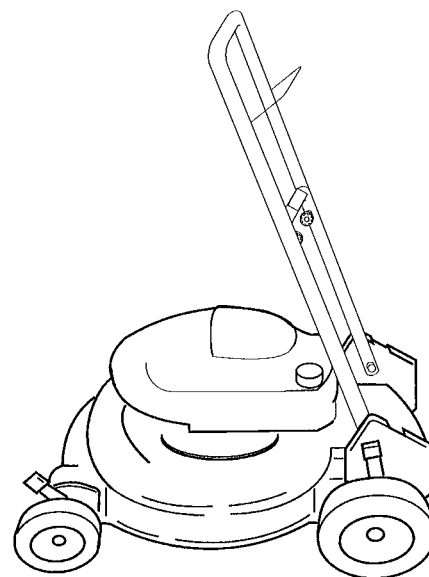

Figure 34
3. For short term storage, place handle in position shown in Figure 34.